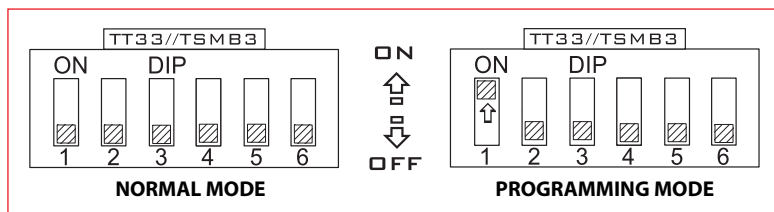

Fig. 7. Switch the door station to programming mode
- > Switch the door station to programming mode by setting DIP Switch 1 (Fig. 7) to ON.
- > To end preprogramming, set DIP Switch 1 (Fig. 7) to OFF.
- > Switch the door station to normal mode by setting DIP Switch 1 (Fig. 7) to OFF.